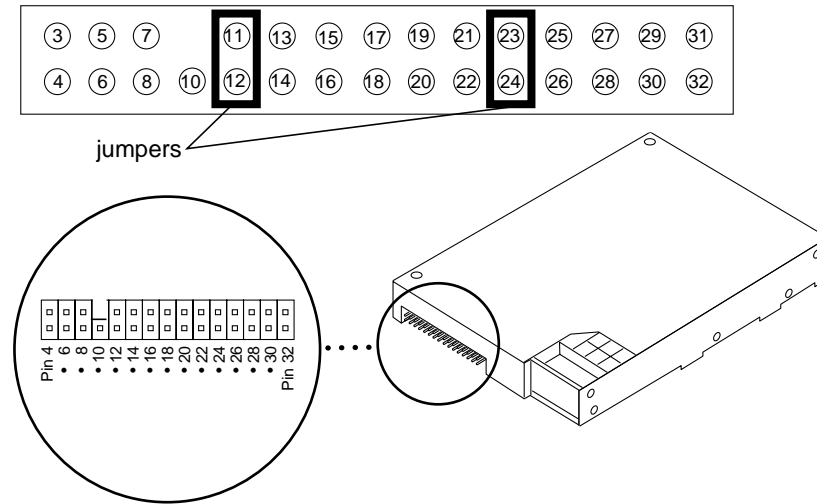

Figure 3-12 Configuration Jumper Settings—IBM Disk Drive
1. Compare the drive configuration jumper settings to Figure 3-12 or Figure 3-12.